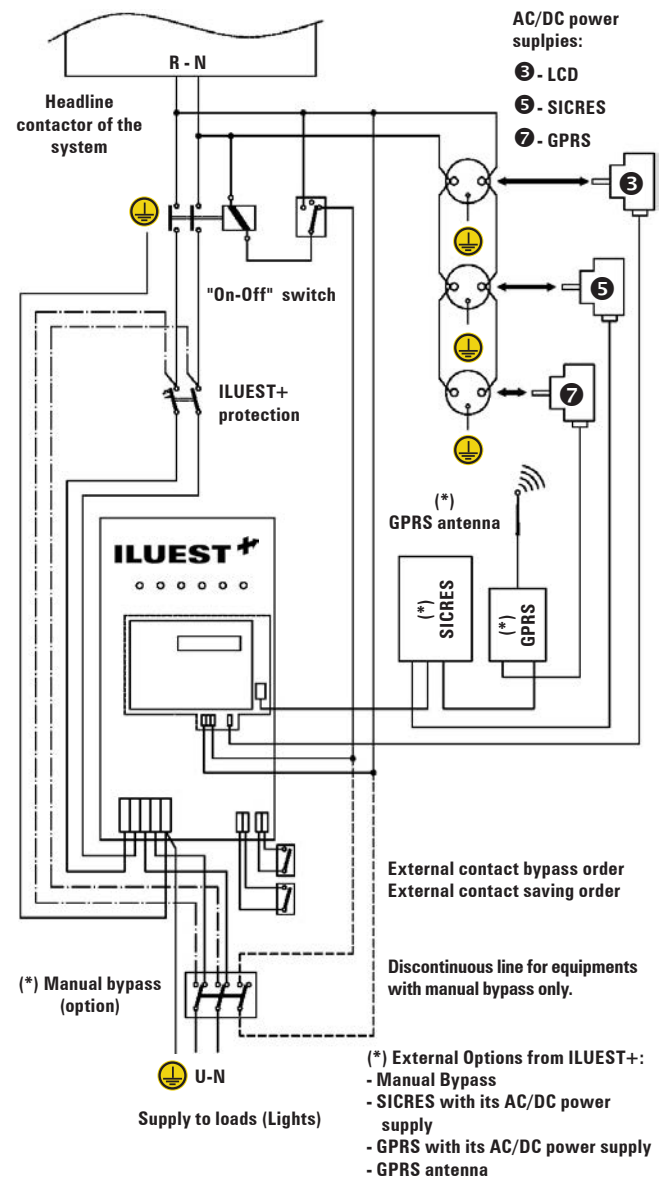

Fig. 19. Installation diagram for single phase format **(OEM)**.
- Equipment without control card (BM491*), see figures 19 for single phase equipments or 20 for three phase.
- ❑ Single or three phase equipment with format **(OEM)**, without neither control card (BM491*) nor manual Bypass (see figures 19 and 20). In these equipments the control of headline contactor, is done through the LCD panel and its power supply through an external AC/DC power supply with transformer provided with the **kit (OEM)**.
Manual Bypass, SICRES card, GPRS with its antenna and their AC/DC power supplies, are optional although they are represented in figures 19 and 20.
When an installation with equipment **(OEM)** has manual Bypass, it is compulsory to make all the connections drawn in discontinuous line in figures 19 and 20.